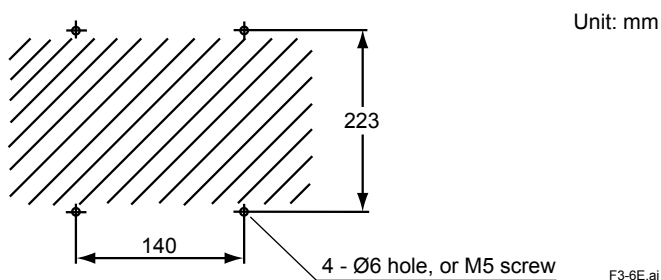

Figure 3.6 Mounting holes
- (1) Make a hole in the wall as illustrated in Figure 3.6.